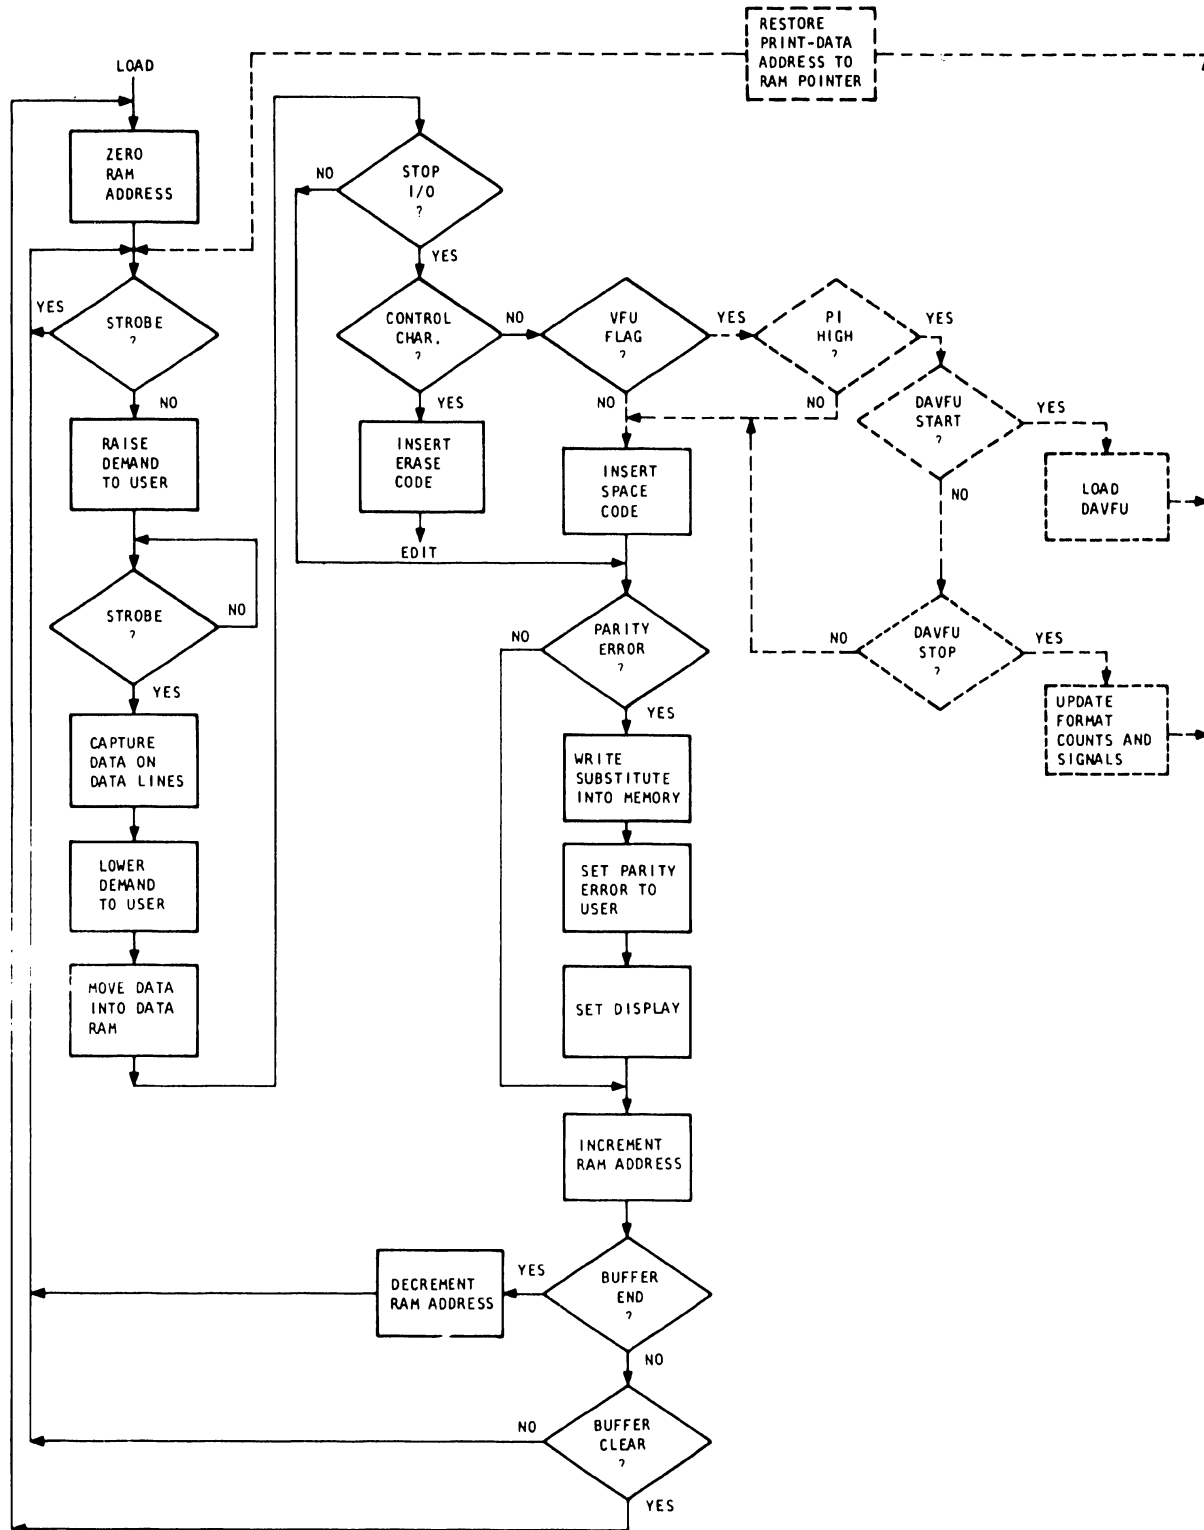

Figure 2-71. 24-Bit Processor Load Data Routine
**Figure 2-71** illustrates the instruction sequence for the 24-bit processor data load routine.